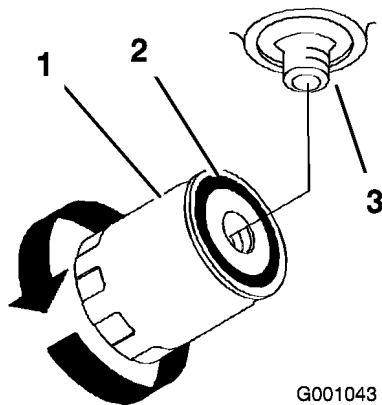

Figure 73
4. Apply a thin coat to the rubber gasket on the replacement filter (Figure 73).
6. Fill the hydraulic tank with hydraulic fluid until the fluid overflows the filter and then turn the oil filter clockwise until the rubber gasket contacts the filter adapter, then tighten the filter an additional 1/2 turn (Figure 73).